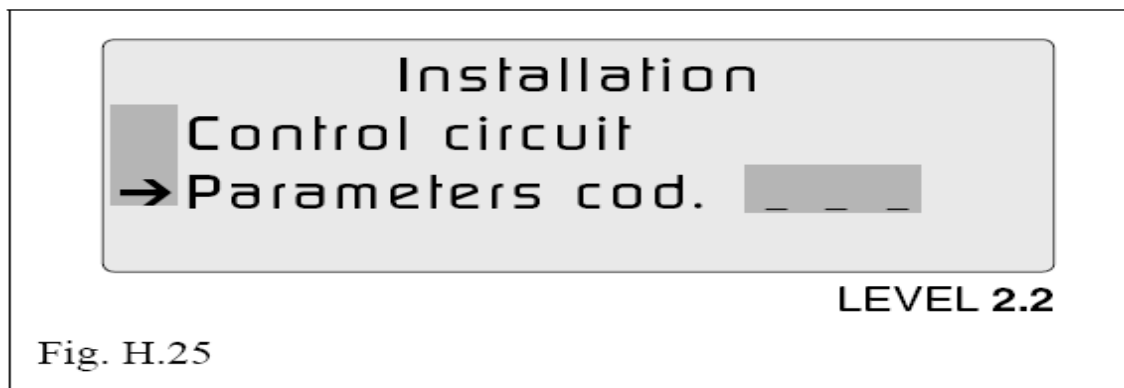

Fig. H.25
**Password "22"** is entered by the service technician to enter the **parameter** menu. (**Figure H 25**)